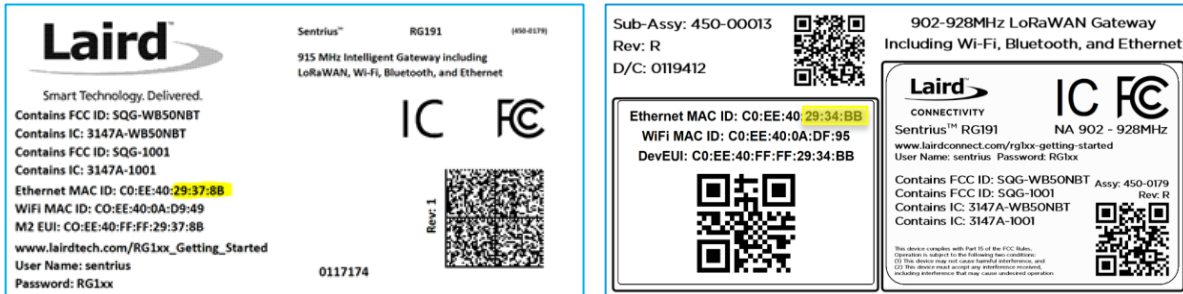

Figure 8: Bottom label (Standard GW – Left, AS923 & AU915 Region Supported/Latest Version – Right)– last three bytes of the Ethernet MAC address highlighted
3. Connect to the access point rg1xx**29378B**, where 29378B are the last six digits of the Ethernet MAC address found on the label on the bottom of the gateway (Figure 8).
1. Determine the last three bytes of your gateway's Ethernet MAC address. This can be found on the label on the bottom of the gateway; the last three bytes are highlighted (Figure 8).